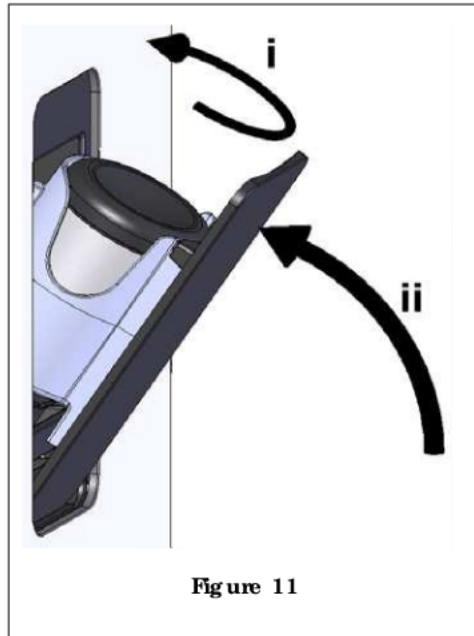

Figure 11
7. Rotate the cartridge until it drops into place and cannot rotate any further. When situated in place correctly, the bottom of the cartridge will be in line with the top of the holder (see Figure 11 – i).
8. Gently close the cartridge door. Do NOT use excessive force to close the cartridge door. It should click into place and lock (see Figure 11 – ii).